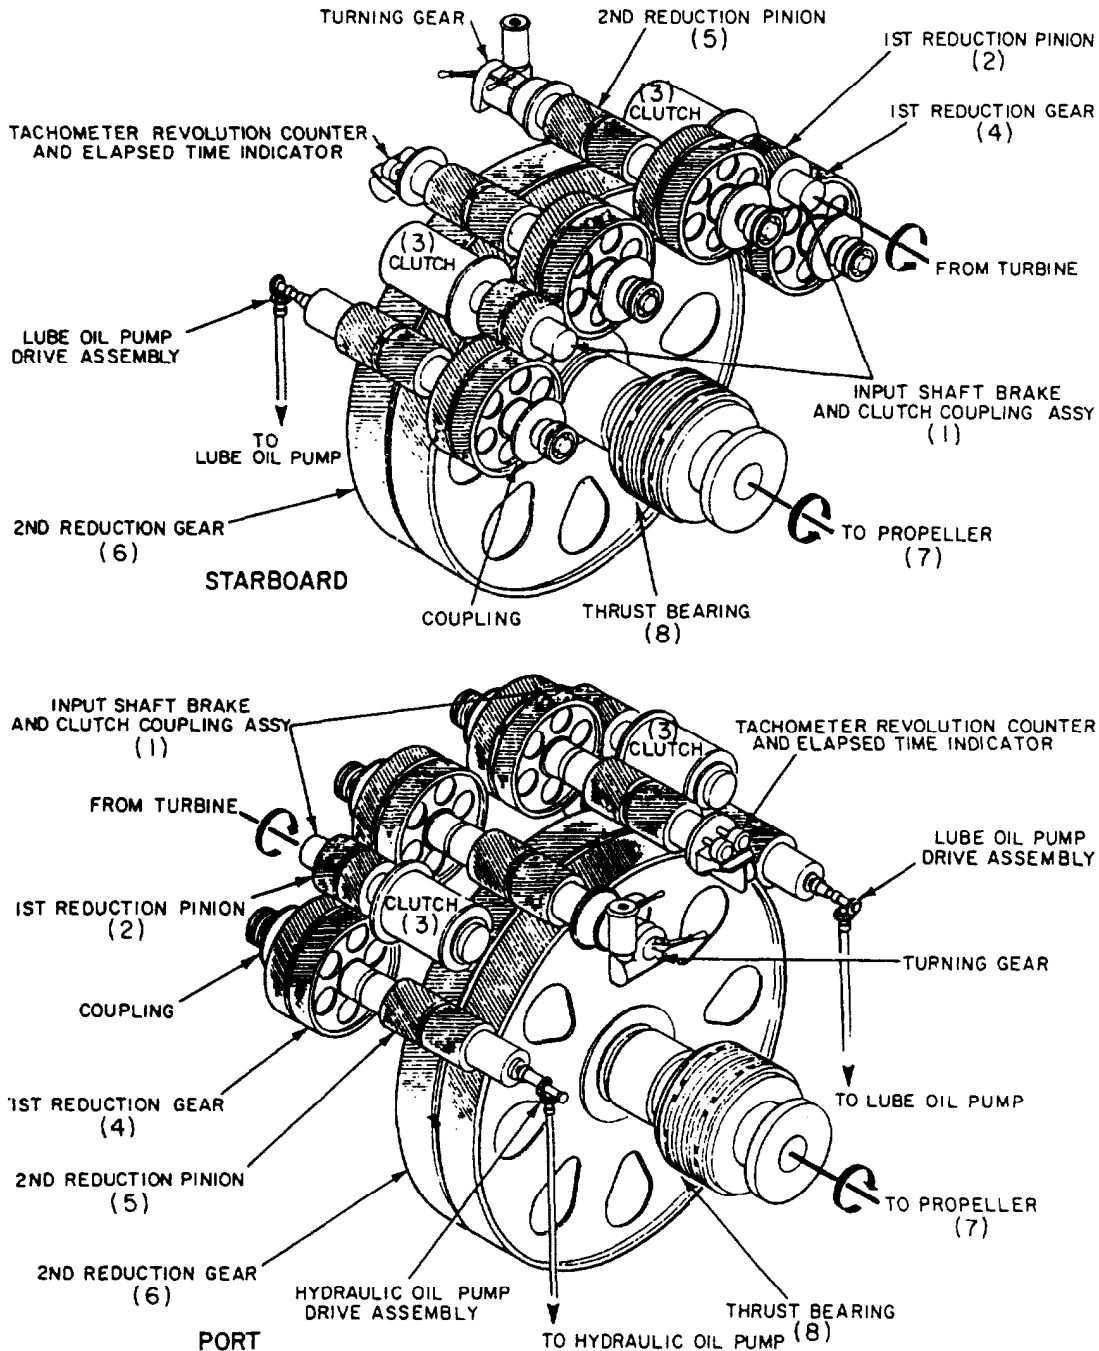

Figure 8-2.—Rotating elements.
propellers produce what we call **inboard rotation**. That is, when viewed from the propeller end looking forward, the port shaft should rotate clockwise and the starboard shaft should rotate counterclockwise. The GTEs all rotate in the same direction. This requires the MERs to be arranged with the port and starboard MRGs installed in reverse directions with respect to each other. This provides the required inboard shaft rotation. For clarity, figure 8-2 shows the rotating elements of
To better understand the rotating elements of the MRG, refer to figure 8-2 as the name and function of each element is pointed out. The two high-speed input shafts (1) each drive a first-reduction (high-speed) pinion (2) through a clutch or clutch/brake assembly (3). The two first-reduction pinions each drive two first-reduction (intermediate) gears (4). The four first-reduction gears drive the four second-reduction pinions (5) through internal quill shafts and flexible couplings. All four second-reduction pinions drive a common second-reduction (low-speed) gear, commonly referred to as the **bull gear** (6). The bull gear shaft is directly coupled to the propulsion shaft (7). Integral with the bull gear shaft is a thrust collar, not shown on figure 8-2. The thrust collar transmits the fore and aft thrust from the propeller via the propulsion shaft to the thrust bearing (8). The thrust bearing assembly is external to the reduction gear case. It is bolted directly to the propulsion bedplate aft of the gear case.